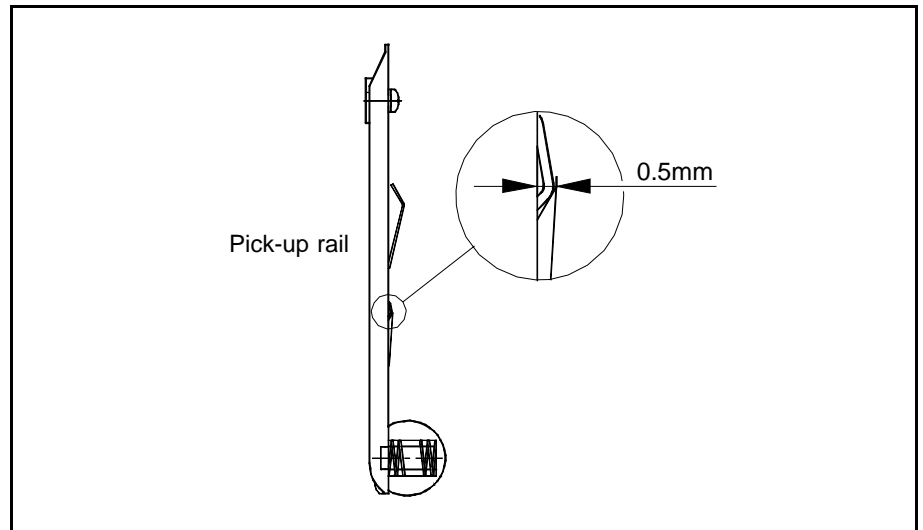

Figure 17. Cover tape lip
The distance between the cover tape lip top and the lower pick-up rail surface should be 0.5mm, see Figure 17. This distance was earlier 0.8mm.
- Measure the distance between the cover tape lip top and the pick-up rail surface as shown in Figure 17.